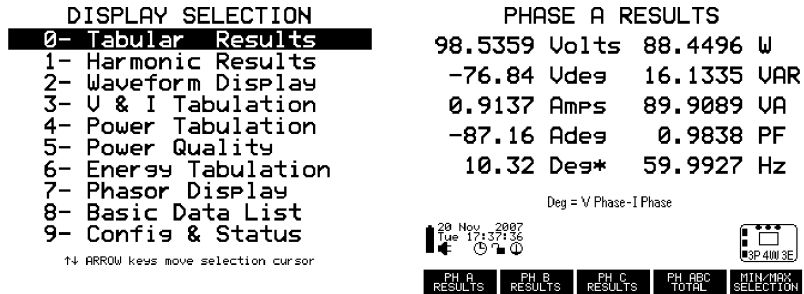

Figure 5.7: Selecting Records
1. To view other forms of data (e.g. per second data) press the numeric key related to the data form in Display Selection menu (as seen in Figure 5.7).
3. To view a specific data type, press any of the numeric keys according to the numbers shown in the Display Selection screen on the left in Figure 5.7.